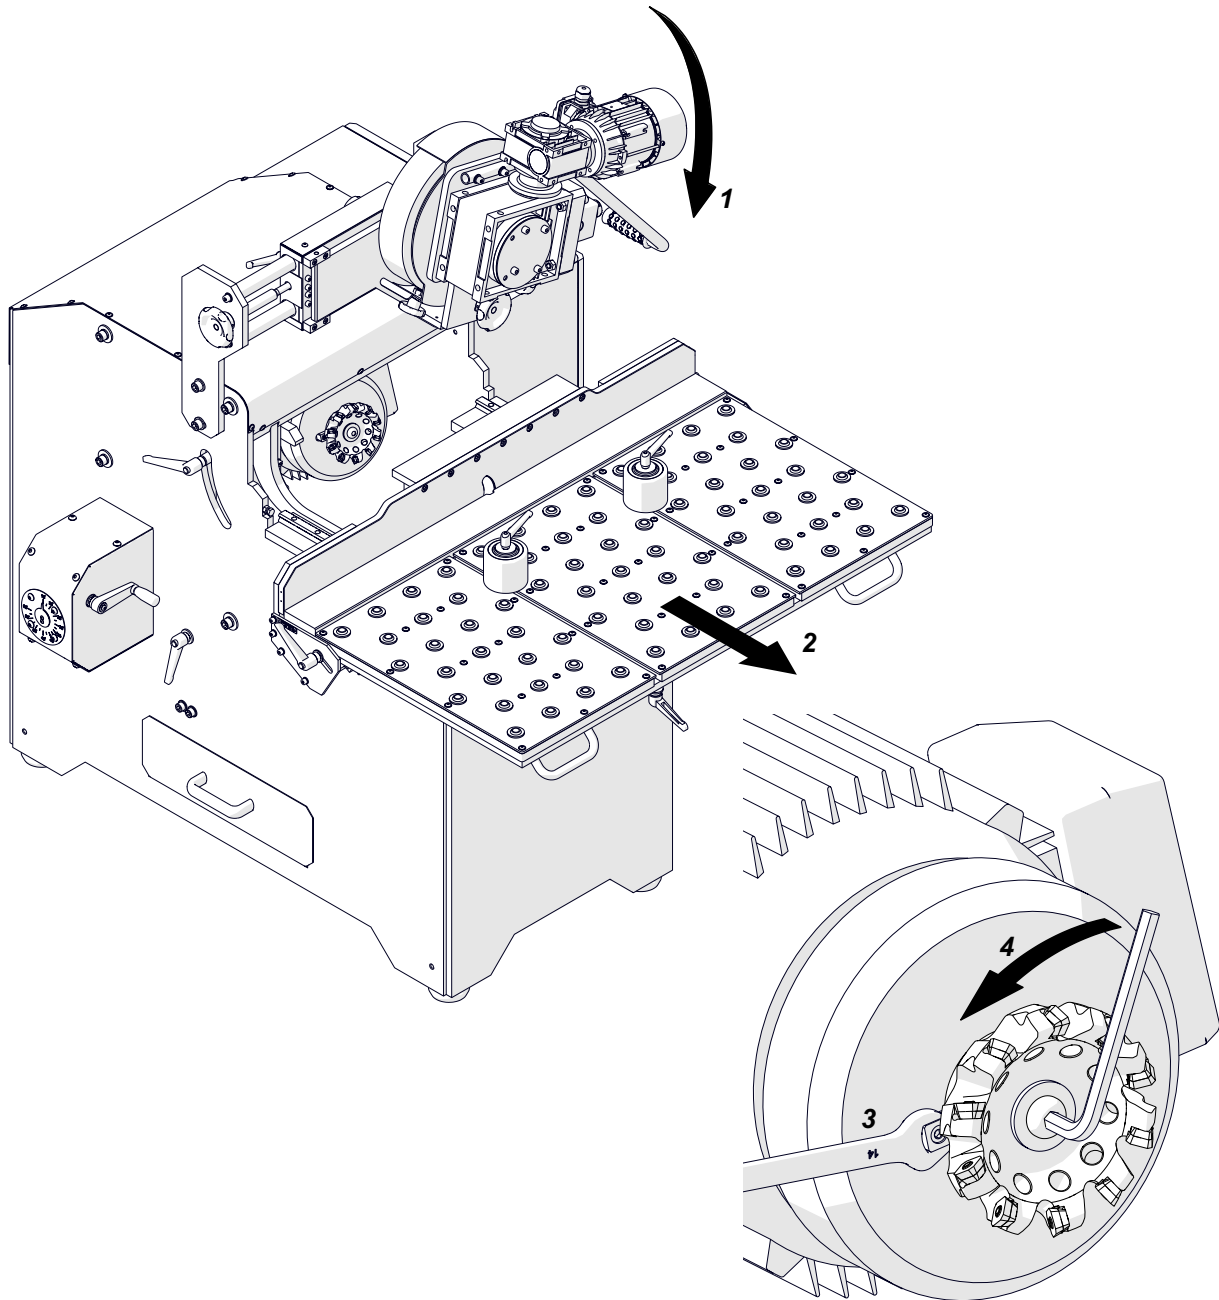

Fig. 13. Removing the milling head
Unplug the machine from the power source. Then, lift the feed unit (1, Fig. 13) and move the table back (2) to get access to the milling head. Use a 14 mm flat wrench to prevent the rotation of the spindle (3). Then, use the 8 mm hex wrench to remove the milling head (4).